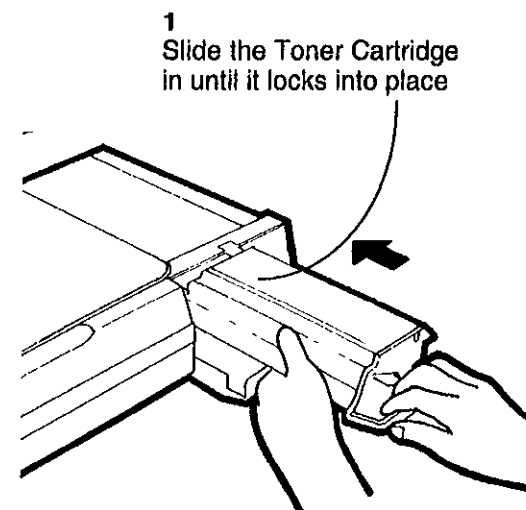

Figure 3. Reinstalling the Toner Cartridge
- 1 (Figure 3) Install the Toner Cartridge.